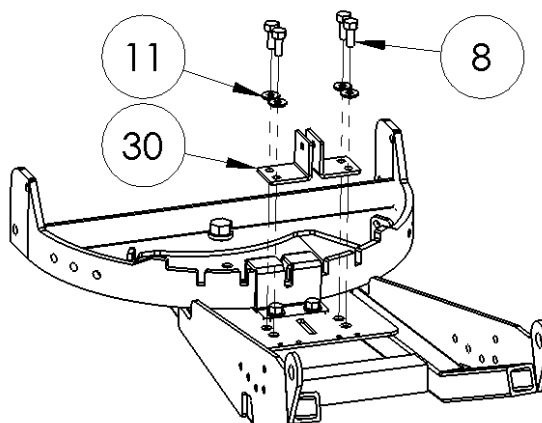

Figure 5
- 3) Attach the Pivot Lever Risers (#30) to the Lift Arm Assembly via the 3/8" Bolts (#8) and washers (#11) included in your kit **(Figure 5)** Do not tighten the 3/8" hardware at this time, it will be tightened after Step 4.